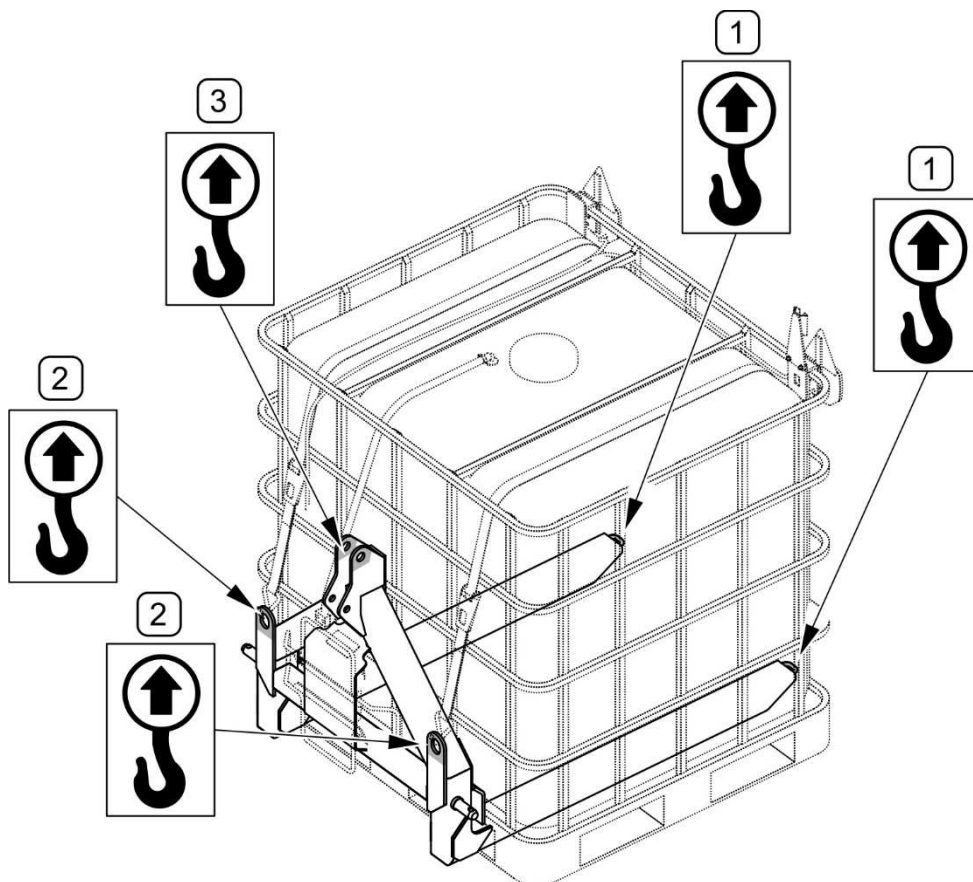

FIGURE 1.2 Transport lugs
purpose, (FIGURE 1.2) i.e. by the ends of the lower beams (1) of the frame, by the lugs (2) next to the pins of lower links and by the bracket (3) of the central link. Suspension points are identified with information decals. When lifting the machine take particular care due to the possibility of tipping over the machine and the risk of injuries from protruding parts. To keep lifted machine in the correct direction it is recommended to apply additional guy cables. During reloading work, particular care should be taken not to damage the electrical system components (if present).